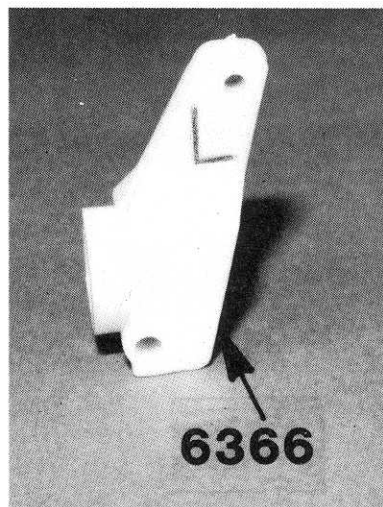

Fig. 83
□ **Figs. 83 & 84** Take the left hand hub carrier #6366, the one that has the letter "L" on it, and push the two ball bearings #897 in it.